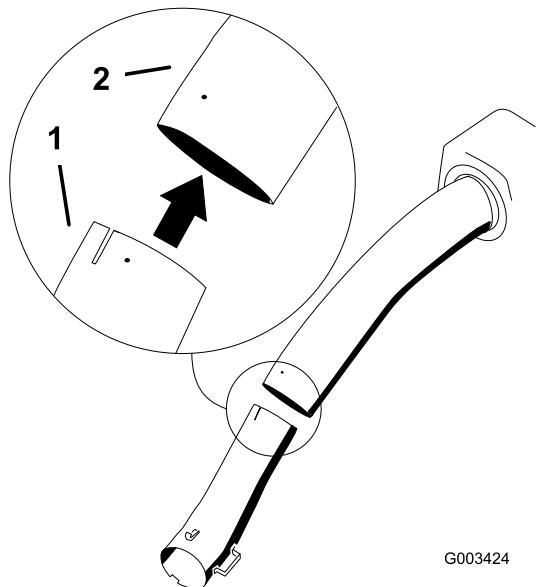

Figure 41
7. Install the lower tube into the upper tube (Figure 41).